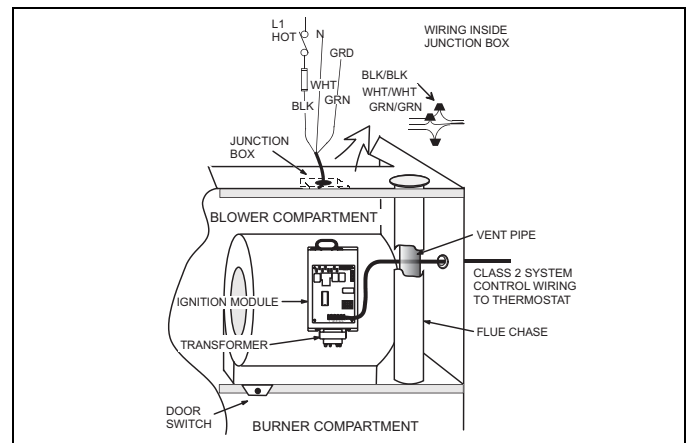

FIGURE 7: Electrical Wiring
- Remove the screws retaining the wiring box cover. Route the power wiring through the opening in the unit into the junction box with a conduit connector or other proper connection. In the junction box there will be three wires, a Black Wire, a White Wire and a Green Wire. Connect the power supply as shown on the unit-wiring label on the inside of the blower compartment door or the wiring schematic in this section. The black furnace lead must be connected to the L1 (hot) wire from the power supply. The white furnace lead must be connected to neutral. Connect the green furnace lead (equipment ground) to the power supply ground. An alternate wiring method is to use a field provided 2" (5.1 cm) x 4" (10.2 cm) box and cover on the outside of the furnace. Route the furnace leads into the box using a protective bushing where the wires pass through the furnace panel. After making the wiring connections replace the wiring box cover and screws. Refer to Figure 7.
Install the field-supplied thermostat by following the instructions that come with the thermostat. With the thermostat set in the OFF position and the main electrical source disconnected, connect the thermostat wiring from the wiring connections on the thermostat to the terminal board on the ignition module, as shown in Figure 7. Electronic thermostats may require the common wire to be connected as shown with the dashed line in Figure 7 or 8. Apply strain relief to thermostat wires passing through cabinet. If air conditioning equipment is installed, use thermostat wiring to connect the Y and C terminals on the furnace control board to the proper wires on the condensing unit (unit outside). Refer to Figure 7.